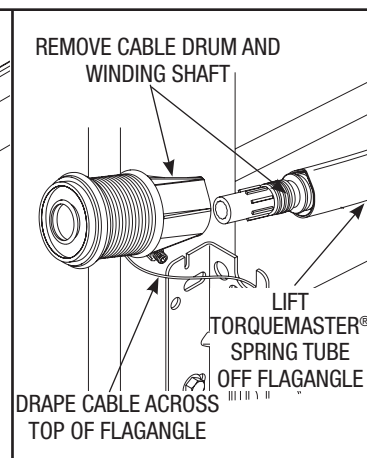

Fig. 9
Step 9: Lift the right hand side of the TorqueMaster® Spring Tube and slide the cable drum off. Realign the groove in the winding shaft with the radial notch in the flagangle and drape the counterbalance cable with drum over the flagangle. Lift the left hand side of the TorqueMaster® Spring Tube and slide the cable drum and winding shaft off (Fig. 9). Drape the counterbalance cable with drum over the flagangle. Lift the TorqueMaster® spring assembly off the flagangles and out of the doorway. Unhook the counterbalance cables from the bottom brackets and remove all parts from the work area.